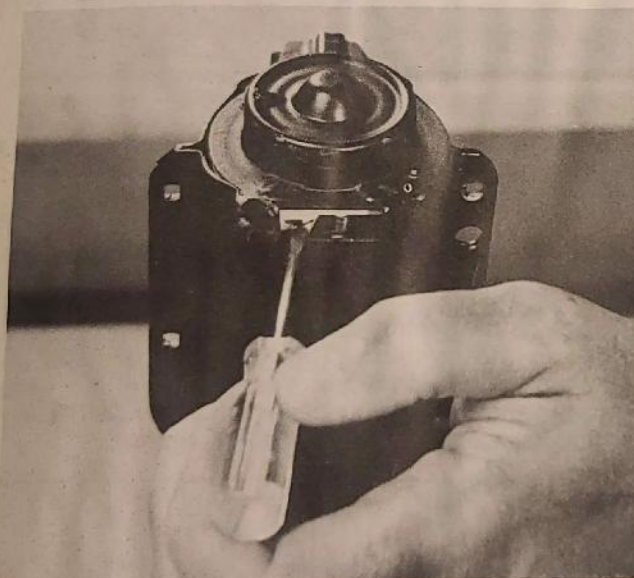

Fig. 28. Freeing Brush Springs
4. Release brush springs. Use small screwdriver (fig. 28). Be sure all three brushes seat against commutator. Then lower end cap and armature into housing. Bend retaining tabs back into place.